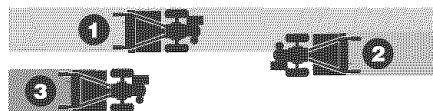

Fig. 4-8
• If the garden size will not permit lengthwise and then crosswise tilling, then overlap the first passes by one-half a tiller width, followed by successive passes at one-quarter width (see Fig. 4-8).